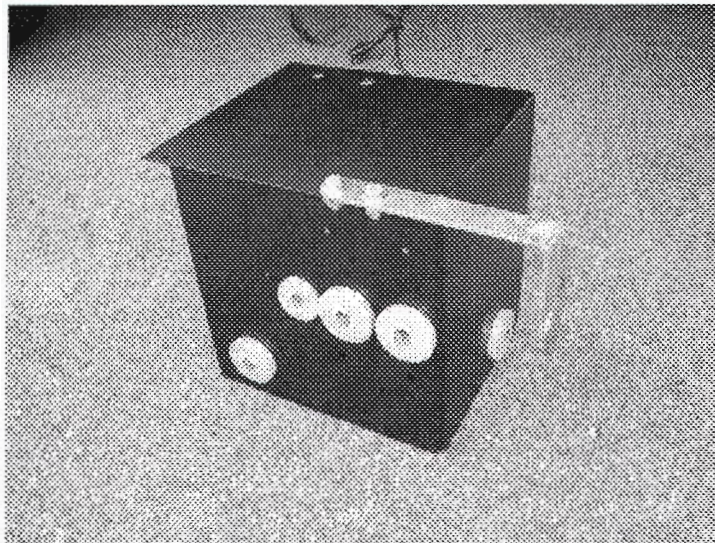

Figure 5
11. Remove the knock-out from the four (4) 40.2mm Grommets, TBB 160568 and one (1) 32.2mm Grommet, TBB 160567. Insert the grommets into the new enclosure, TBB 168247.
12. Bolt the Cable Support Bracket, 23-09130-029 to the flange at the top of the enclosure using four (4) Flat Washers, TBB 61370348, two (2)  $\frac{1}{4}$ -20 Bolts, TBB 61370802, and two (2)  $\frac{1}{4}$ -20 Lock Nuts, TBB 29940006. Leave the  $\frac{1}{4}$ -20 nuts loose to ensure the enclosure mounting holes can be aligned during installation. **Figure 5**